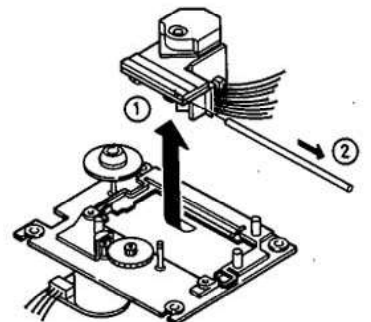

Figure 10
6. Take out the pick-up (1). Then pull out the shaft (2). (See Figure 10)